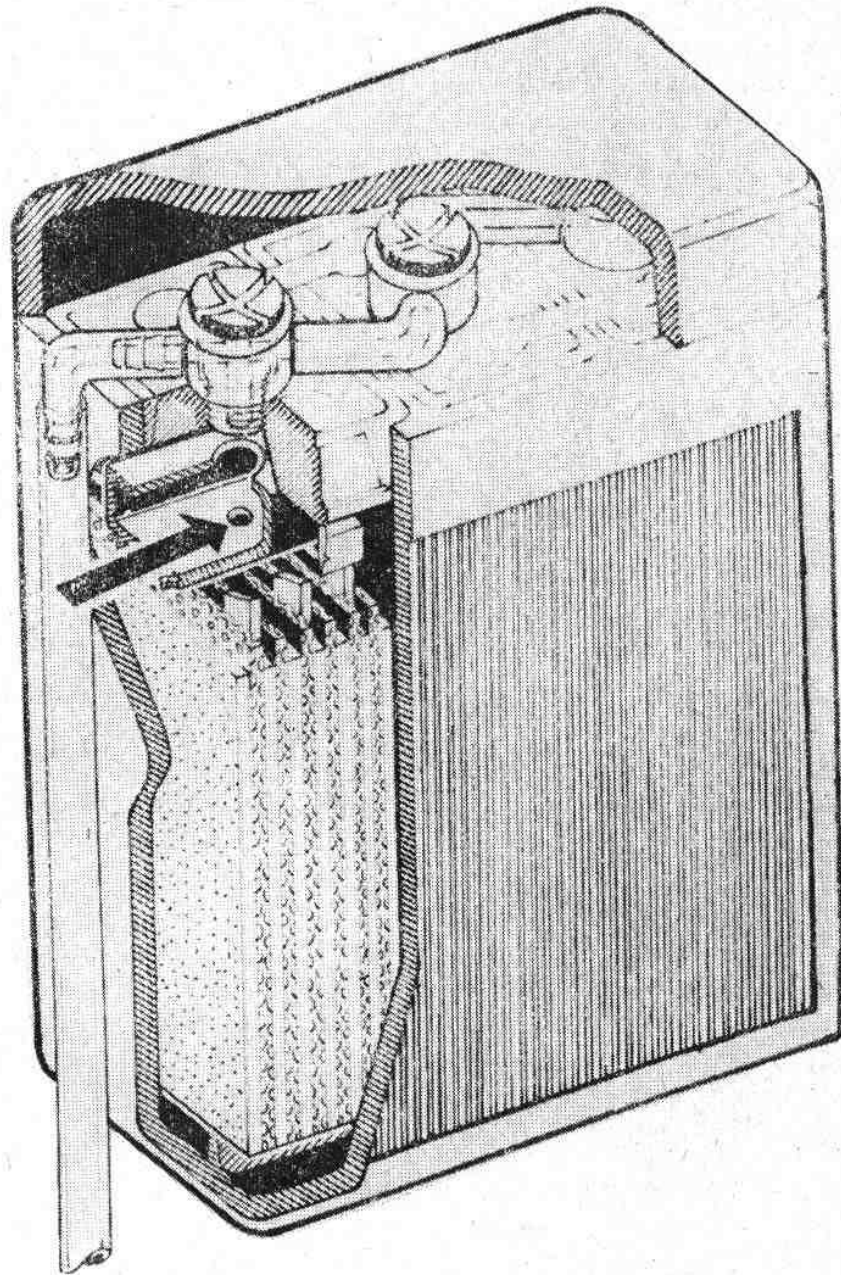

Fig. 29 – Sectional view of storage battery
STORAGE BATTERY (Fig. 29)
The electrolyte should not reach higher than to the first cross partition above the battery plates (see Fig. 29). If the electrolyte level is higher, it will send the evolving vapours and gases into the overflow hose and clear of the vehicle, but only under the condition that the overflow hose is correct connected.
1. Unscrew the plugs and remove the degassing mechanism from the storage battery. Fill the three battery cells with chemically pure sulphuric acid (never of an industrial brand) diluted with distilled water to obtain a specific of 1.26 (1.23 in tropical regions) and take care not to surpass the level of the first cross partition above the plates (see Fig. 29).
2. Check the electrolyte level at least once in a fortnight (or every 1,000 km). If necessary, add distilled water to obtain the specified level (see Fig. 29).